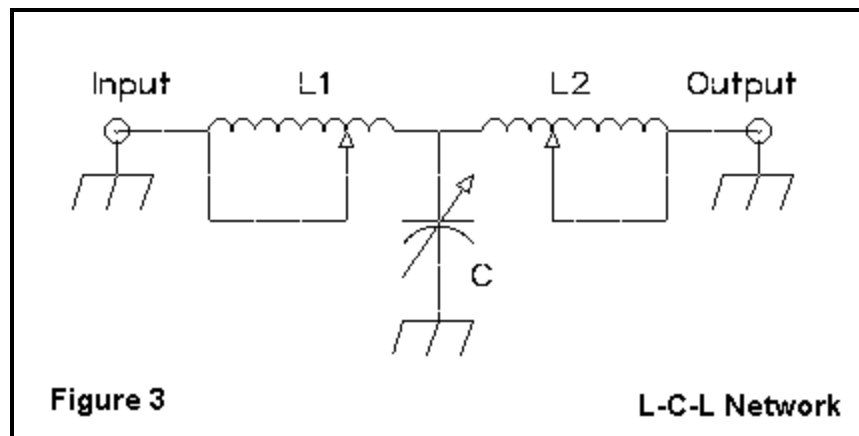

Figure 3. Typical Series-L T circuit.
The circuit in Figure 3 is also a high-pass filter: it is a T-circuit with series inductors and a shunt capacitor.
Figure 3 shows the same data for the 67' Zepp, about the length of a 40-meter dipole. There are only 4 lobes for this shorter antenna, but, of course, 4 nulls as well.
1. What do I get for my trouble? First, you get 3 to 4 dB additional gain in both directions, depending upon which wire you set at the 40' level, where we placed our one-wire EDZ. If you can put the second wire at about 60' or so, you will get the higher gain, plus a lower take-off angle of  $9i\frac{1}{2}$ . That puts the bulk of your power in the 10-meter far-DX zone. Figure 3 also shows a secondary lobe at about  $28i\frac{1}{2}$  for shorter paths. If you place the lower wire at about 20' up, you will get the lower gain and a basic take-off angle of  $14i\frac{1}{2}$ . That is still worth while.